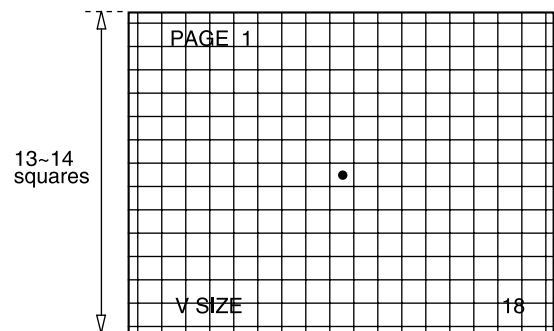

Fig.1-3
- Use the volume keys on the jig remote controller to adjust the vertical number of squares to 13 or 14. (Fig. 1-3)